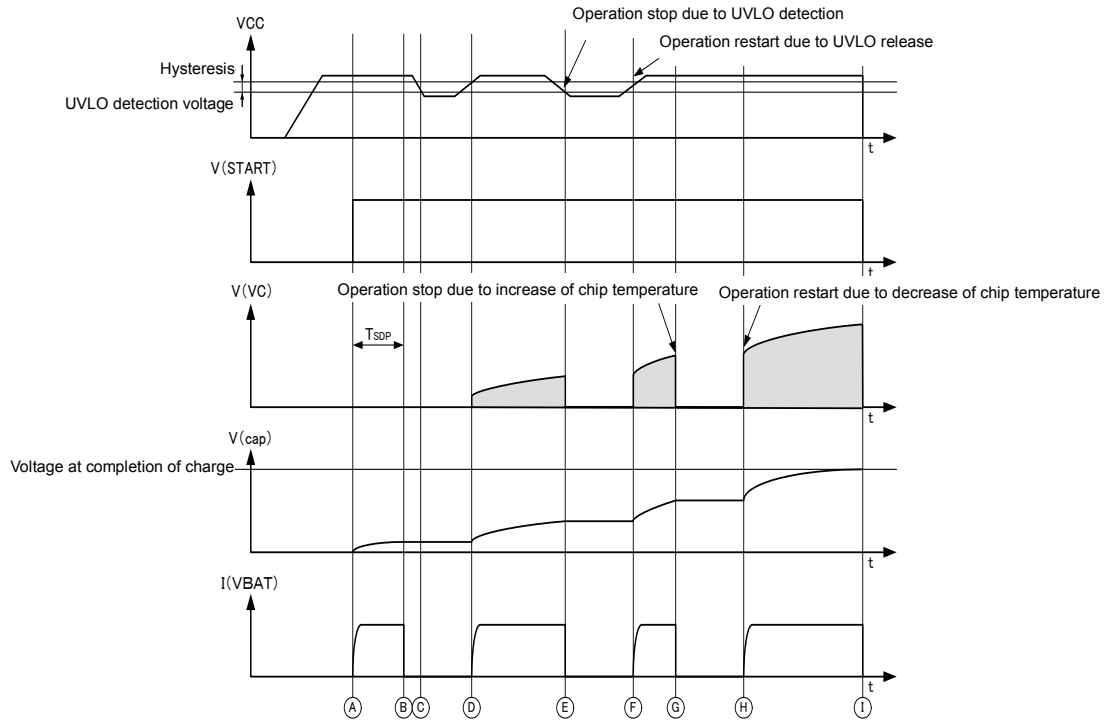

Fig 35 Timing Chart 3: Under Protective Circuit Operation
- ③ The protective circuit is activated (See Fig 35 and the Protective Circuit.).
If the VCC voltage is reduced to the UVLO detection voltage specified in the electrical characteristics or less, the UVLO protective circuit is activated and the charging operation temporarily stops. (See Time Ⓐ and Ⓒ in Fig 35.) After that, when the VCC voltage becomes the UVLO release voltage or more, the charging operation automatically restarts. (See Time Ⓓ and Ⓕ in Fig 35.)
It protects the IC against thermal runaway due to excessive temperature rise ($T_j > 175^\circ\text{C}$ [TYP]). After detection, the charging operation temporarily stops (See time Ⓒ in Fig 35.), and when the chip temperature decreases, ($T_j < 150^\circ\text{C}$ [TYP]), it automatically restarts. (See Time Ⓔ in Fig 35.)
If the VC pin becomes the GND level due to any failure and the PowerTr repeats switching 2^{16} (=65536) times which is the SDP count number (TSDP) at the maximum OFF time, it is judged as an error and the charging operation is forced to be stopped. (See Time Ⓒ in Fig 35.) If the START pin is changed from "L" to "H" and the UVLO detection is released, it restarts.